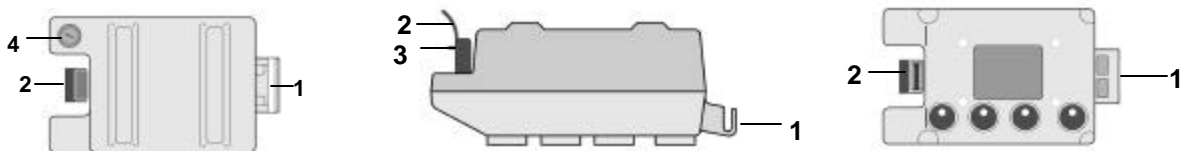

Figure 1-6. SEB42-1 Battery
- c. SEB42-1 Battery.** The SEB42-1 battery (Figure 1-6) is a 24V battery that contains 20 rechargeable NiCd-cells. The battery clamps to the rear of the gyroscope with a hinge (1) and a latch (2). The latch is equipped with a safety catch (3) which must be pressed to release the latch. The battery is protected against discharging or short circuiting by a fuse (4).